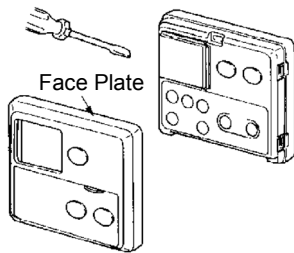

Fig. 2
1. Carefully remove face plate from water controller, using a screw driver. (Fig. 2)